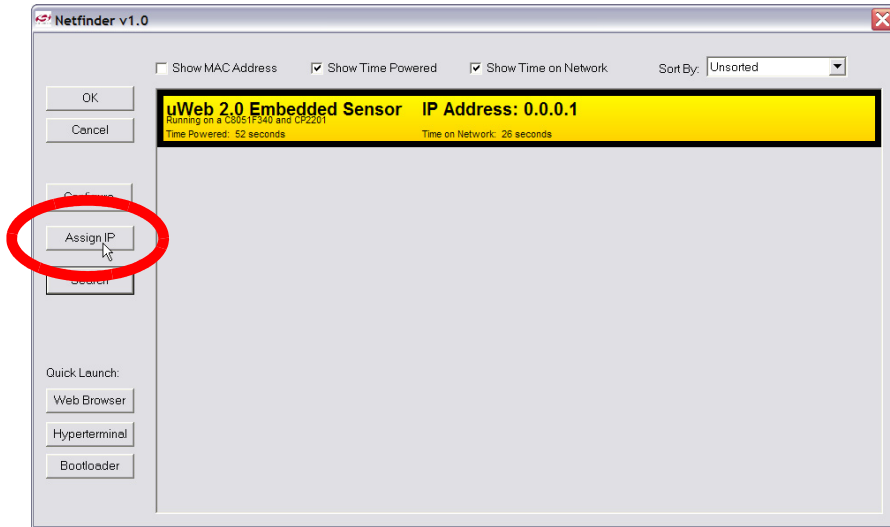

Figure 5. Static IP Address Mode
- If the network does not have a DHCP server, then the CP2201EB will search for approximately 35 seconds before going into static IP address mode. While searching, the yellow led will be blinking fast. After going into static IP address mode, Netfinder will display information about the device in a window with a yellow background. Select the device by **clicking inside the yellow area** and **pressing the Assign IP button** as shown in Figure 5.